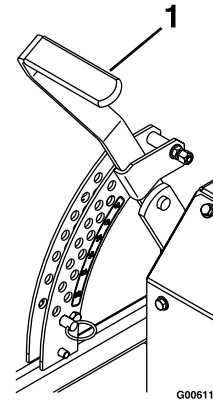

Figure 8
3. Raise the deck height lever to the transport position (also the 4 1/2 inch (11.4 cm) cutting height position)(Figure 8).